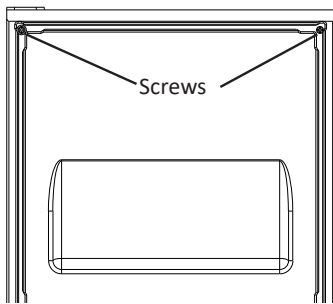

Fig. 18
- 9) Temporarily fasten the overlay panel to the door using 2 of the M4×25 pan head screws provided. **NOTICE! Ensure that the back surface of overlay panel is flat before attaching.** See Fig. 18.